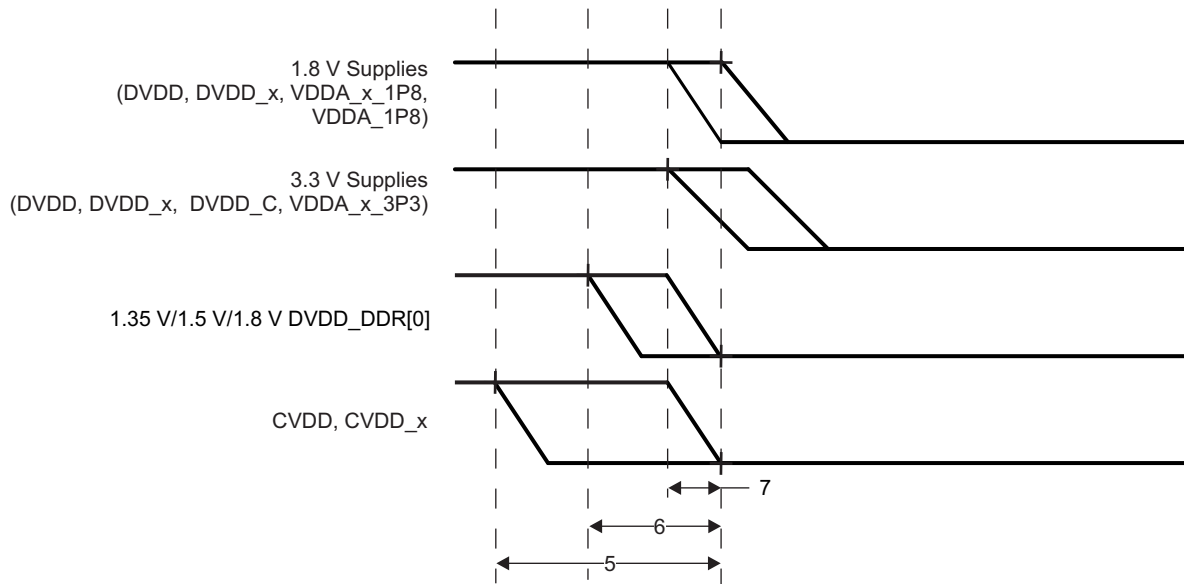
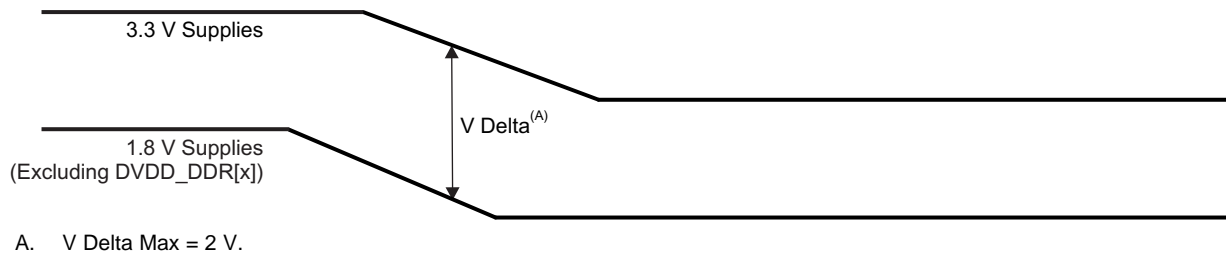
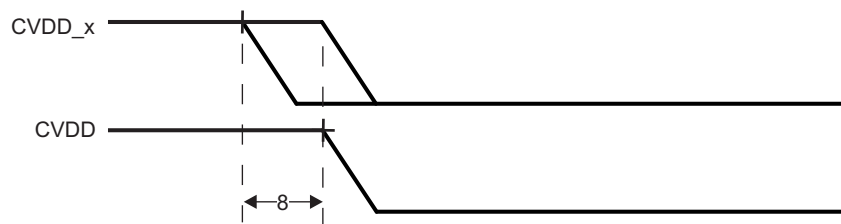

Figure 7-2. Power-Down Sequence
Figure 7-3. 3.3 V Supplies Falling After 1.8 V Supplies Delta
Figure 7-4. CVDD and CVDD_x Power-Down Sequence
For proper device operation, the following power-down sequence in Table 7-6, Figure 7-2, Figure 7-3, and Figure 7-4 **must** be followed.
- (1) The 3.3 V supplies **must** never be more than 2 V above the 1.8 V supplies (see Figure 7-3).
- (2) The CVDD supply must be powered down coincidentally or after CVDD_ARM and CVDD_HDVICP supplies (see Figure 7-4).